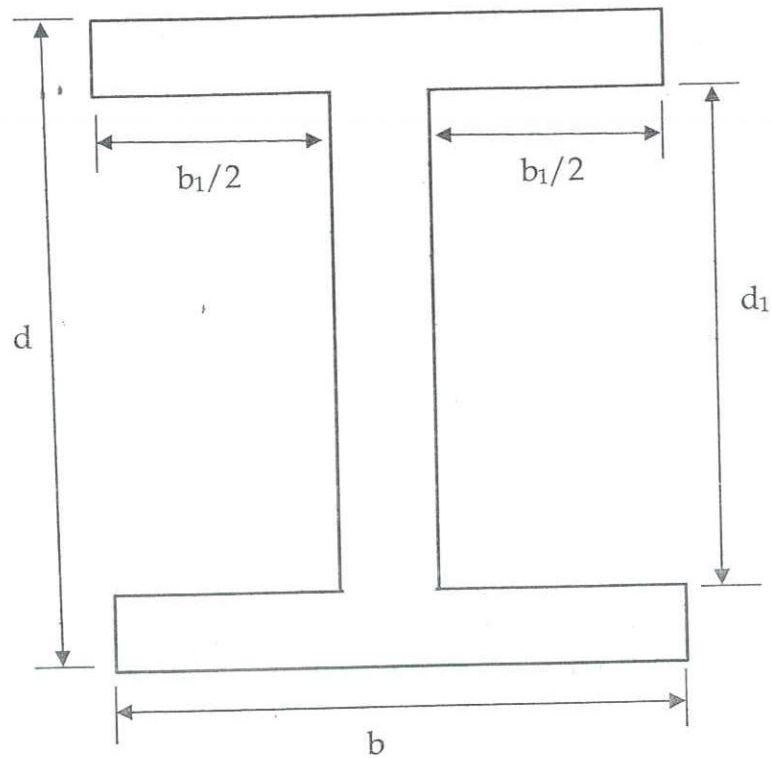

Figure Q3
- Q3. Consider an I-section beam (**Figure Q3**) which is subjected to a bending moment.